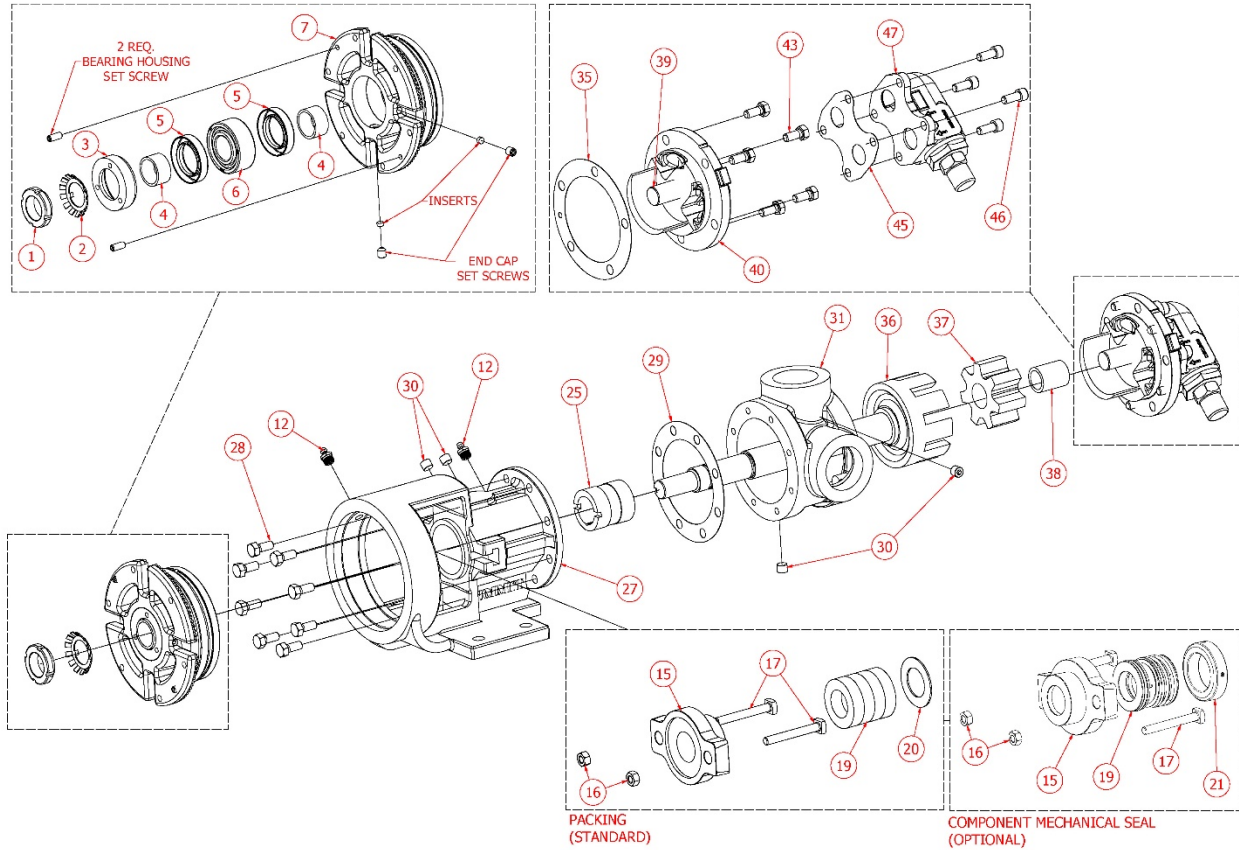

Figure 10-1: VV40H & VV40HL Exploded View – Cast Iron
1. Before operating the pump it must be filled with liquid. This can be done by removing the piping or pipe plugs (item 30 in Figure 10-1 on page 24) and fill with pumping liquid or water. (Only use water if it will not contaminate the pumping liquid.)
1. Check the lip seals (05, Figure 10-1 on page 24) in the bearing housing for tears, worn areas and/or leaks.
3. Check lip seal (05, Figure 10-1 on page 24) and drive shaft for wear. The suction and discharge piping spool pieces should be inspected internally for their condition.
Refer to Figure 10-1 and Table 10-1 on page 24 for part's item number reference.
1. Remove pipe plug (30) in lower section of bracket (27) to drain fluid from casing and piping.
2. Mark head (40) and casing (31) alignment using a permanent marker before disassembly. It is critical to keep head (40) and casing (31) orientation the same for proper performance.
3. Remove cap screws (43), head (40) and, if equipped, internal relief valve (47) (Instructions for internal relief valve disassembly refer to Section 11.5). Take care not to damage the head gasket (35) and idler (37). When removing, tilt the head (40) away from the casing to avoid the idler (37) falling off the idler pin (39), to avoid damaged.
If pump is jacketed, remove jacket head plate (42) and O-ring (41) at this point. *Note: Items (42) and (41) are not shown in Figure 10-1.*
4. Remove idler and bushing assembly (37). Visually check for wear and damage, replace if needed. If necessary, remove idler bushing (38) using a press. Refer to Section 12.1 on page 29 for more bushing details.
5. Separate head gasket (35) from head (40) and set aside, replace if damaged or needed. Press out idler pin (39) if needed.